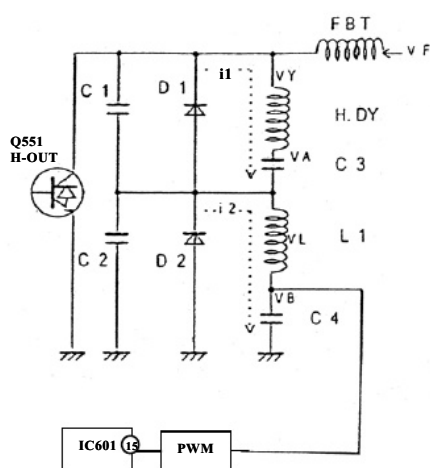

Fig 4.2
1. During the first half of the horizontal scanning, which takes place without adding vertical parabolic voltage at PWM [Fig 4.2], i1 and i2 currents flow as power supply and VA becomes $V_F = V_A + V_B$. Then, during the second half of horizontal scanning, it takes the sum voltage of the counter- electromotive